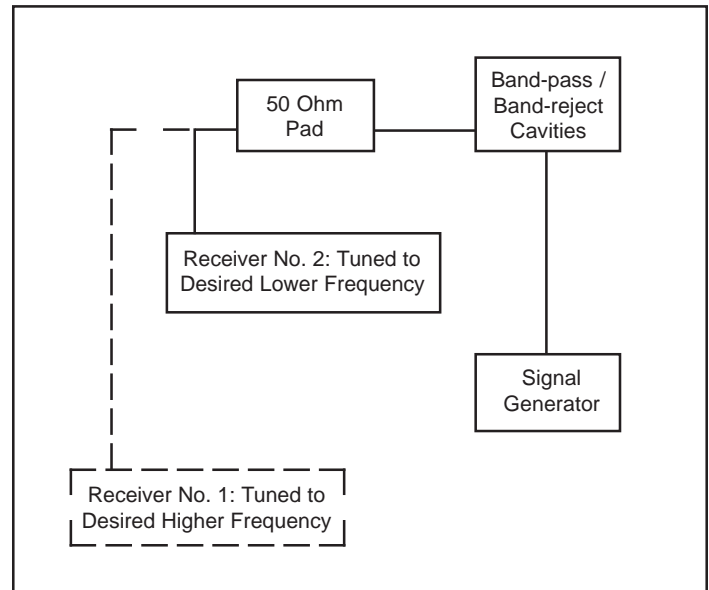

Figure 3
1. Connect the equipment as shown in Figure 3.